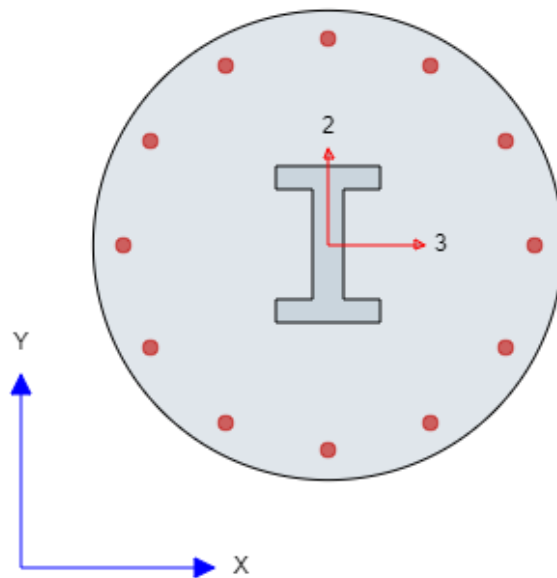

Figure 1.2 Section made of 2 Shapes
- **Section** is a combination or collection of shapes placed together to act as a single cross-section. Properties are computed and the design is completed for a section and NOT for a shape (unless a section has only one shape). Figure 1.2 shows a section made up of 2 shapes.